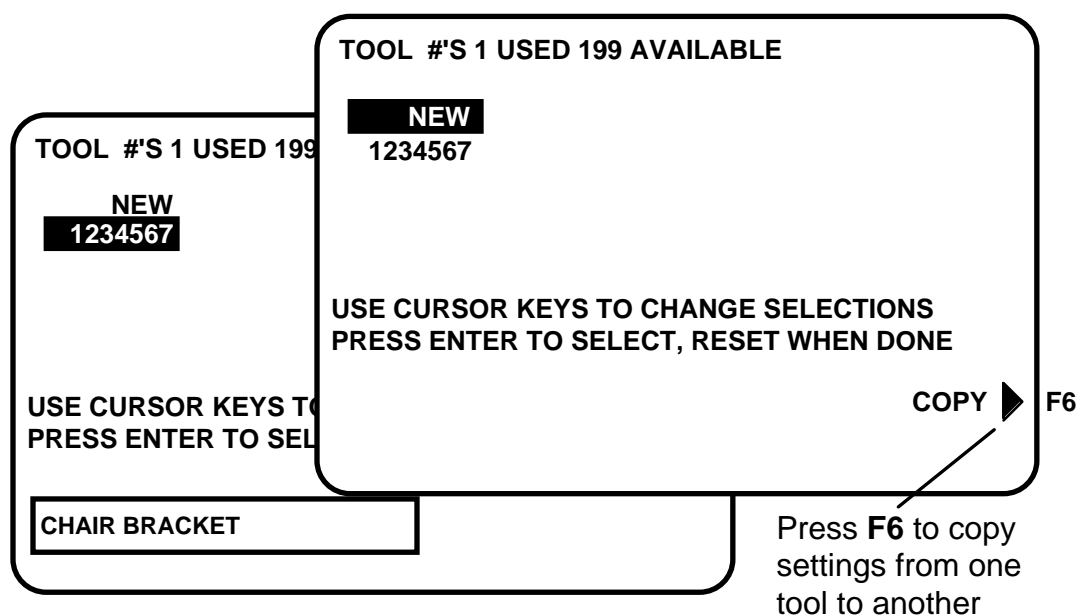

Figure 5-2. Program mode display highlighting "NEW" or "currently loaded tool"
1. Select NEW to enter in a new tool number. You will see the following display superimposed over the tool display (as pictured in Figure 5-2):